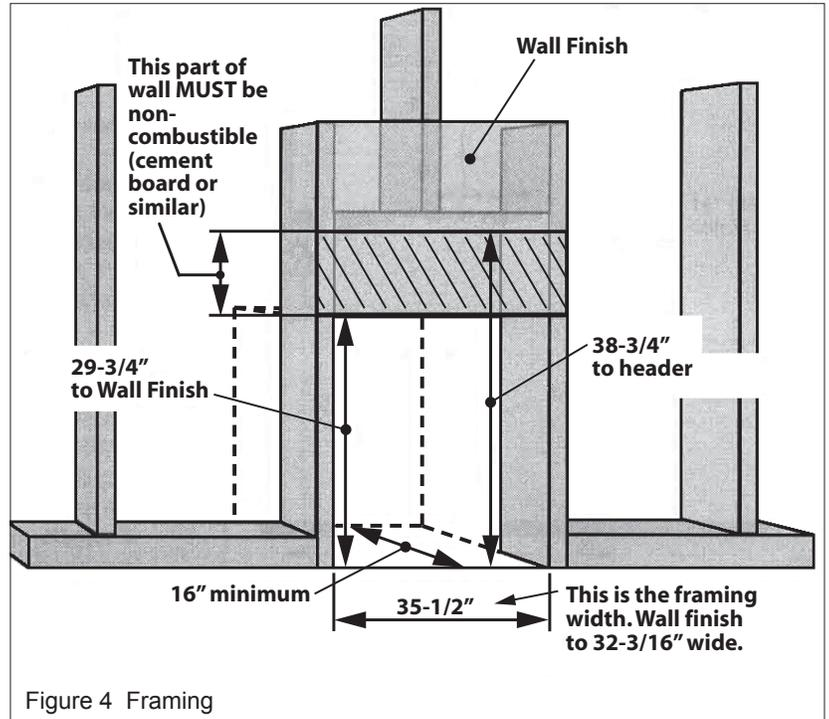

Figure 4 Framing
The framing dimensions are shown in Figure 4.
- Be aware of the area 9" x 35-1/2" (23 cm x 90.2 cm) immediately above the opening area shown hatched in Figure 4 which must be constructed with non-combustible materials (such as cement board).